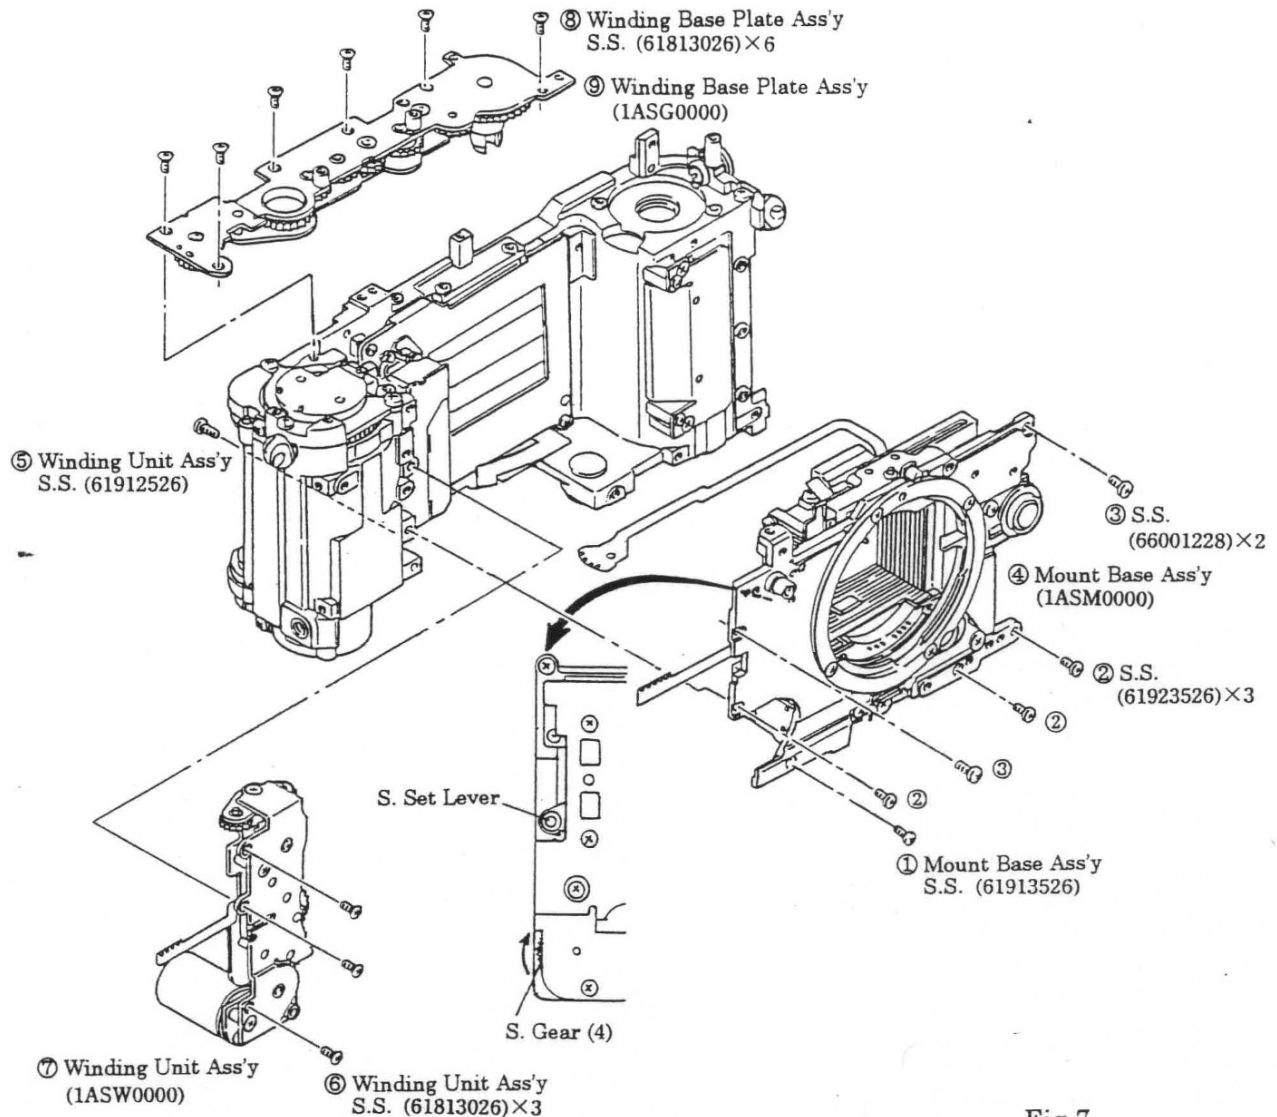

Fig.7
- 1) Remove parts in the numerical order of ① to ⑨ shown in Fig. 7.
- b) Make certain that the S. Set Lever of the S. Set Base Plate Ass'y is in the lower position, and then install the Mount Base Ass'y in the Body. (See Fig. 7)